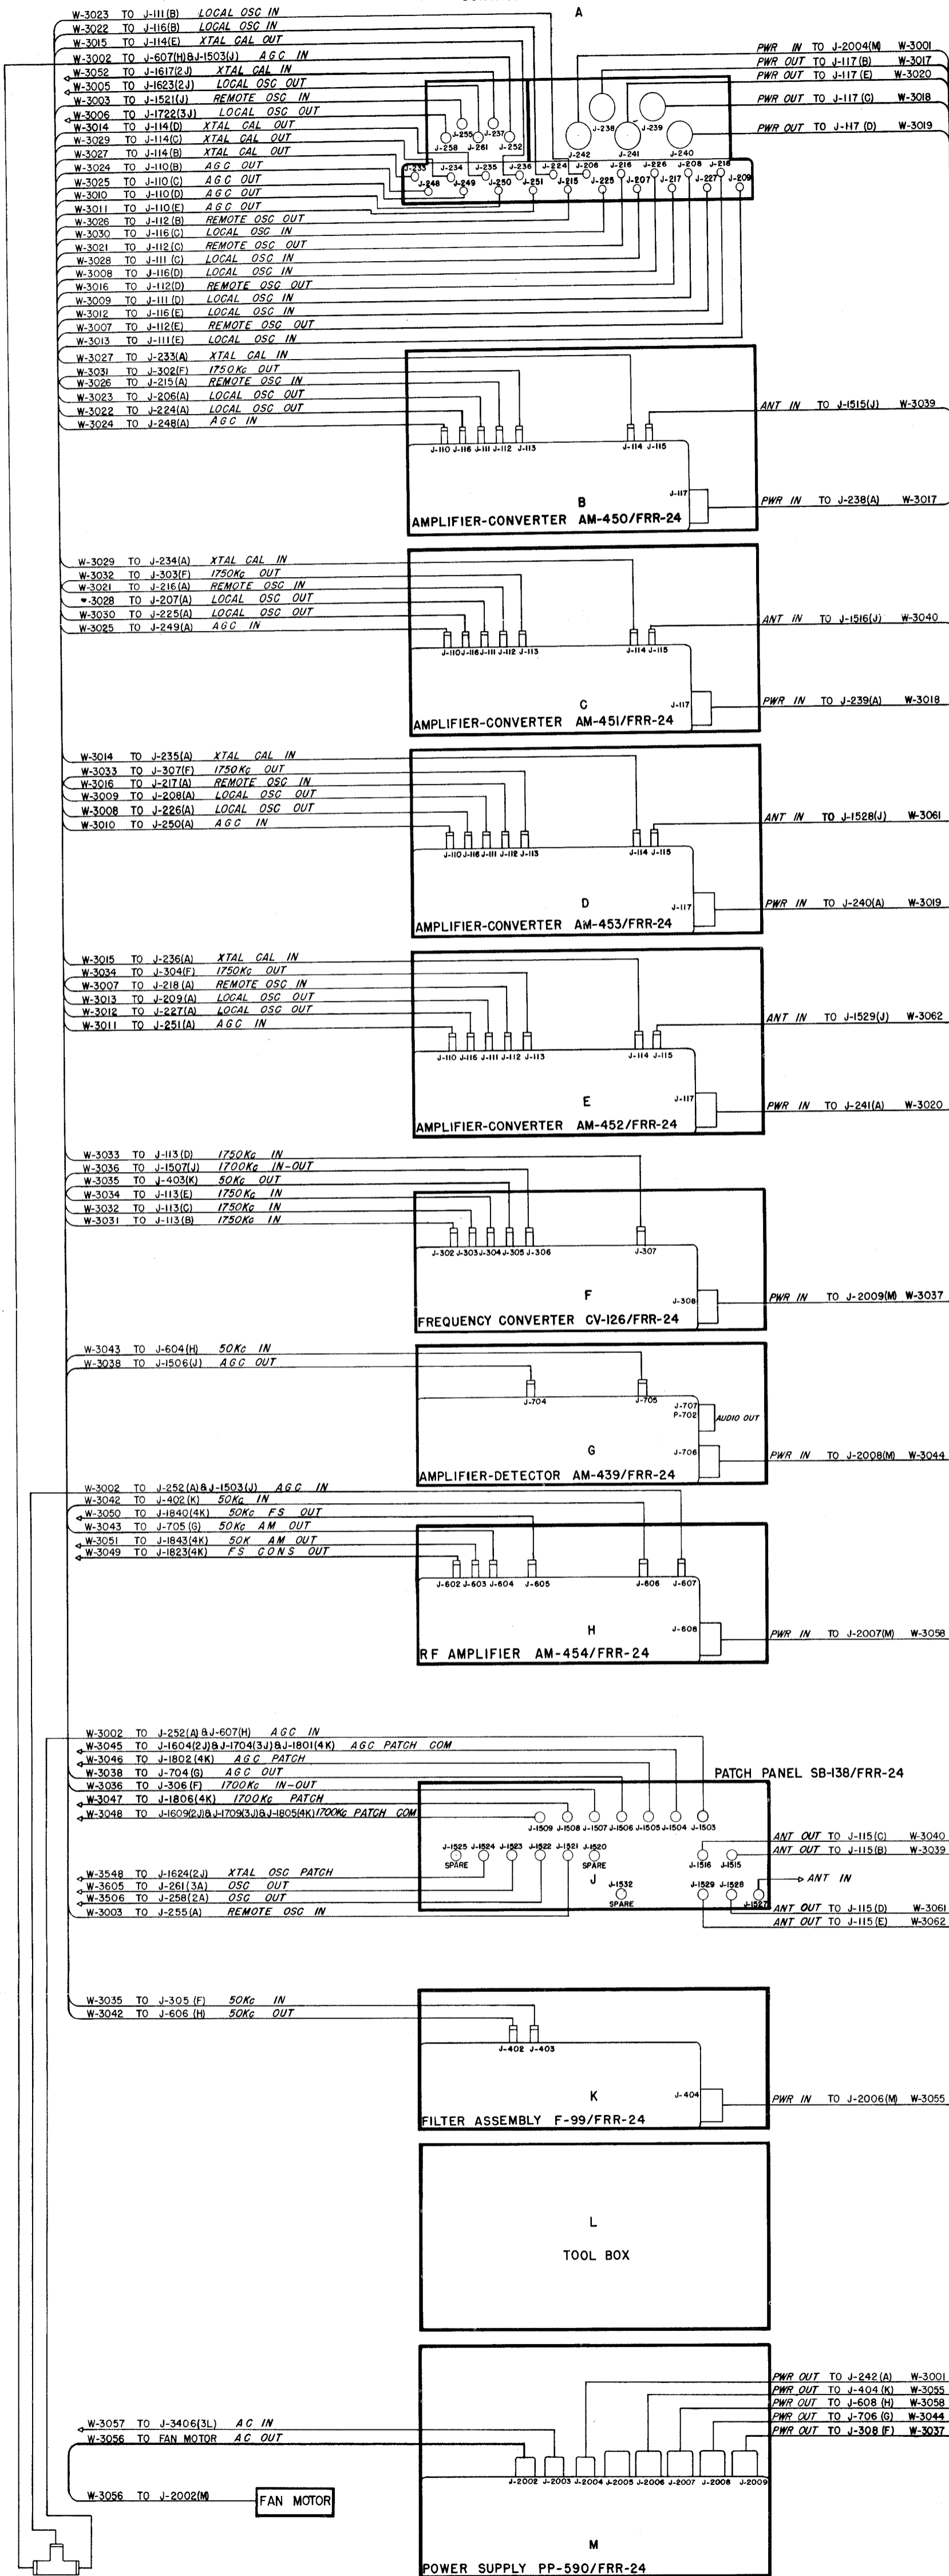

Figure 3-8. Interconnection Diagram, Bay no. 1
(1) INTERCONNECTING CABLES.—All cables terminating within a bay are fastened within the cabinet during shipment. The terminations are taped to the cable supports with pressure-sensitive tape. Remove all the tape. The end of each cable carries a marker which contains the cable number and the number of the jack to which it must be connected. Figure 3-8 through 3-11 show the location of all the jacks and identify the cables.
Step 2. Referring to Figure 3-8 tie the cables securely to the cable supports in such a manner that the connectors on the ends of the cables will reach their terminating connectors when the individual cabinets are installed.
Step 6. The eleven loose interconnecting cables are fed one at a time, from bay to bay through the access holes and fastened securely to the cable support nearest their termination. See Figures 3-8 through 3-11.